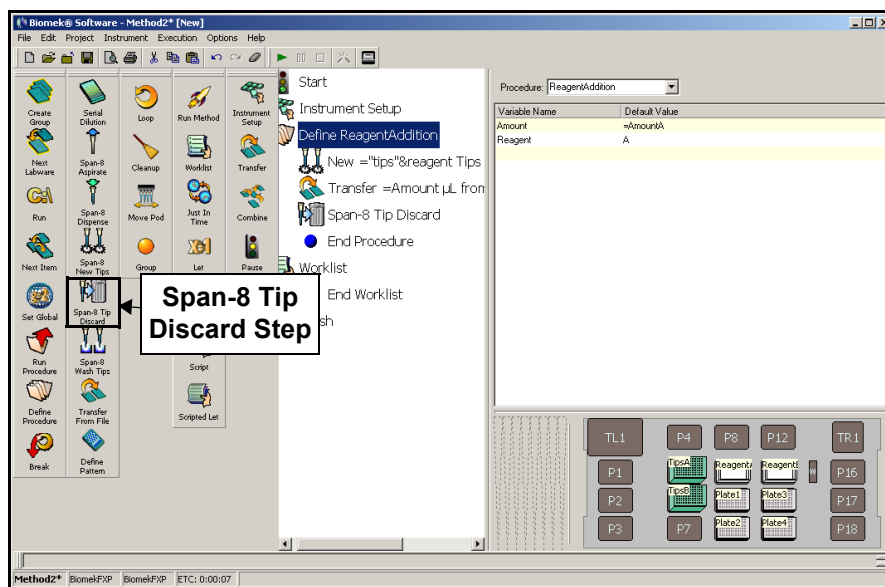

Figure 8-7. Define Procedure step configured
2. Click on the **Define ReagentAddition** step. Your main editor should look like Figure 8-7, and the variables in the named procedure you just created will be used to specify when new tips are used and which reservoir will be accessed when transferring liquid.